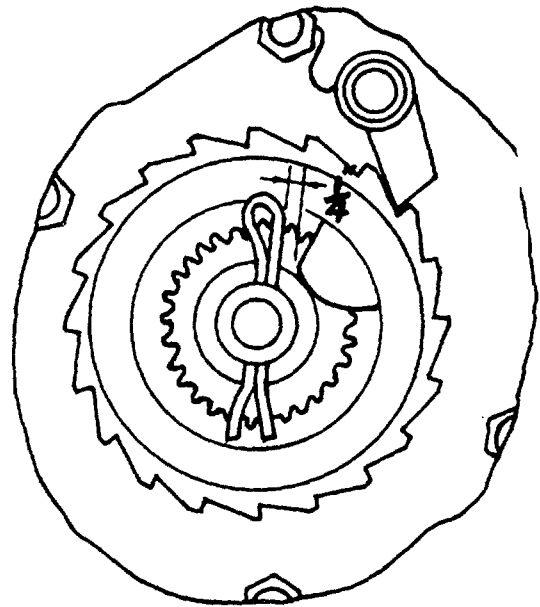

Fig. 2
- (A) Unscrew 4 screws to remove handwheel cover. Pull cover and lift hand chain from handwheel. chain will remain looped through handwheel cover. If it is necessary to remove hand chain, find the unwelded link and bend open for removal.
- (B) Unscrew 4 screws on gear cover and remove cover.
- (C) Back out the square head set screw to permit removal of the spindle (smallest gear).
- (D) Grasp handwheel and pull. After removal, the complete handwheel and brake assembly may be more conveniently placed in a soft jawed vise for disassembly.
- (E) Remove cotter pin and unscrew (counter clockwise) the handwheel from spindle. See Fig. 2 Page 8 for reassembly adjustment.
- (F) Lift off brake disc, ratchet, and second brake disc.
- (G) The pawl retaining ring and pawl spring nut should be removed to permit the pawl and pawl spring to be disassembled. The pawl stud can be disassembled by turning counter clockwise.
- (H) When reassembling, the smaller of the two brake discs is placed on the spindle last (against the handwheel assembly).